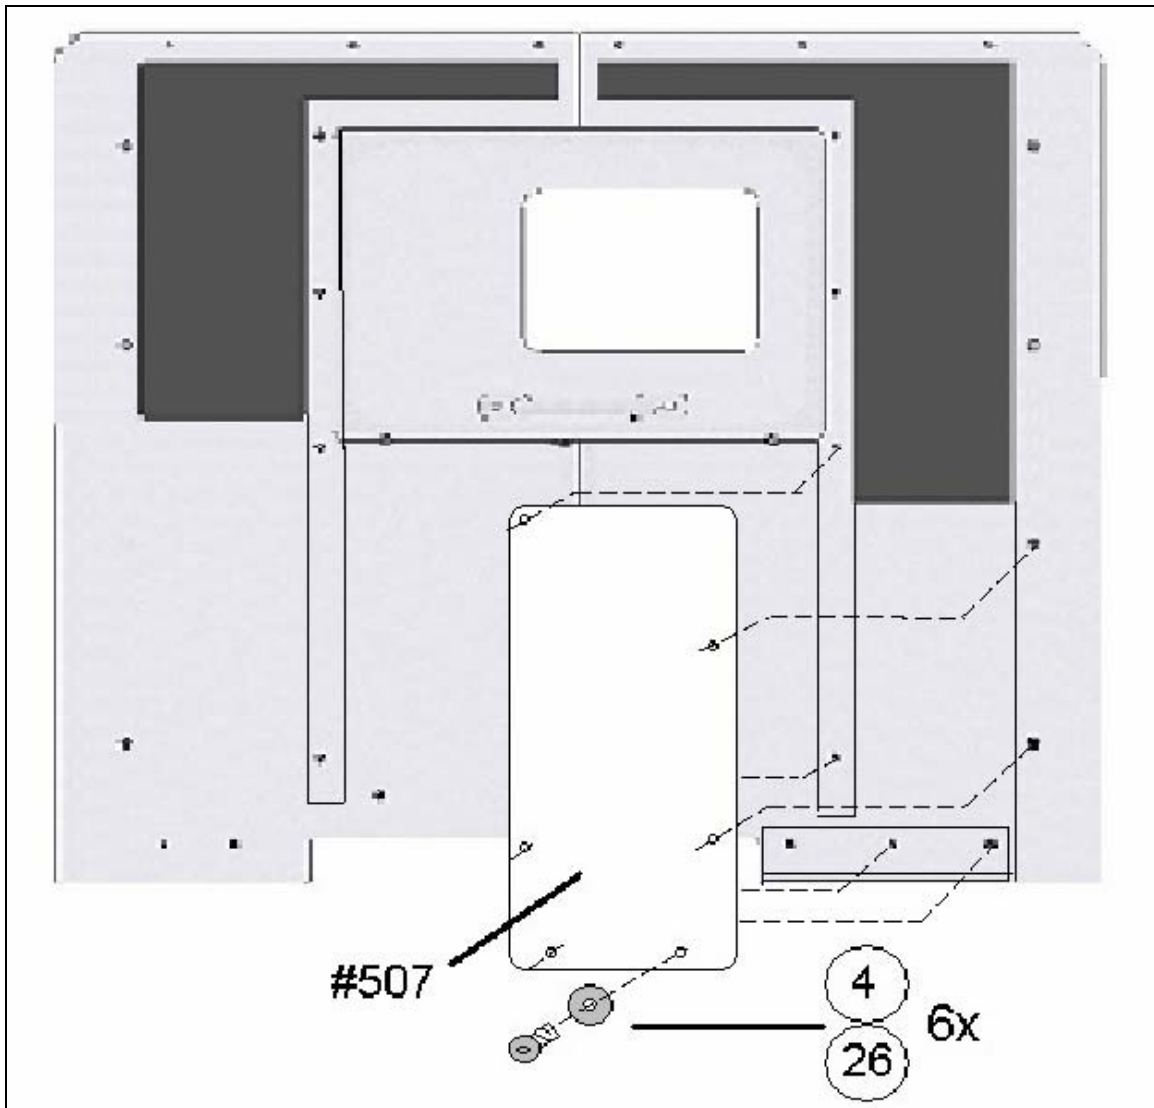

Figure 7-12. Mounting Plate Installation.
Parts (see Figure 7-12):
Fasteners: (see Figure 7-12)
1. Remove the six bolts indicated in Figure 7-12 and install part #507 using new bolts (4) and existing washers. Apply thread-locking compound to the screws.
2. Original Equipment Manufacturer (OEM) components that were displaced from the rear wall may now be mounted to this plate. Simply transfer the mounting hole pattern for each component to the plate and drill a 0.159" (No. 21) hole for each mark. Secure the component with #10 x 1/2" self tapping screws (58).